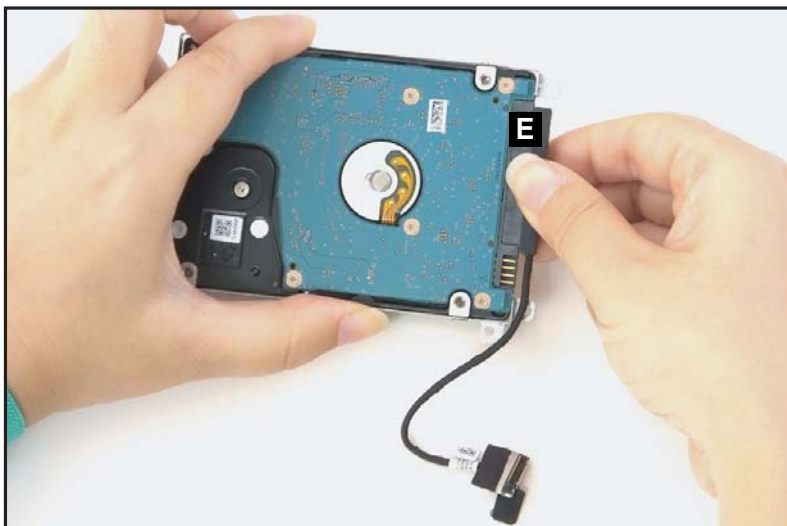

Figure 1-23. HDD Module Removal
5. Disconnect the HDD cable from the HDD module connector (E) (Figure 1-23).